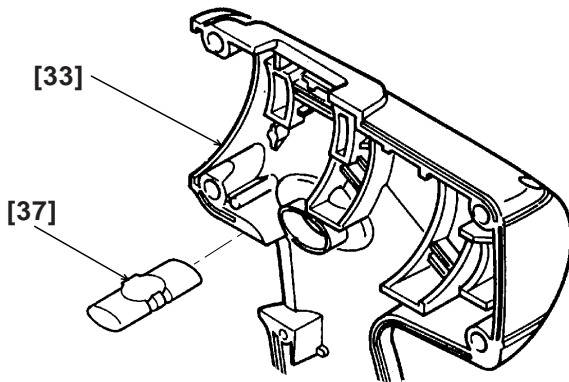

Fig. 10
(4) Installation of the reassembled state in step (3) into Housing (A) and (B) **[33]**.
(a) Install the Pushing Button **[37]** into Housing (B) **[33]**. (See Fig. 10.)